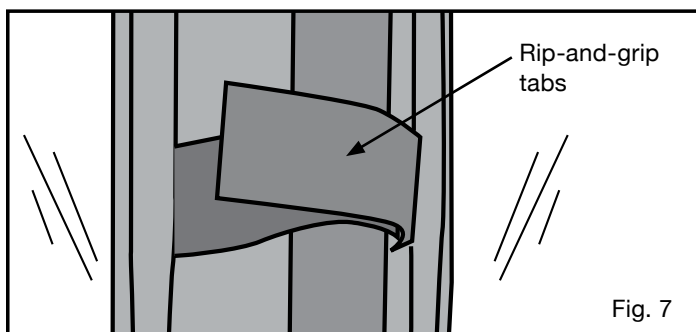

Fig. 7
19. Find all rip-and-grip tabs on the inside of the cab fabric shell [Q] and secure the cab fabric shell [Q] to the frame. (Fig. 7)